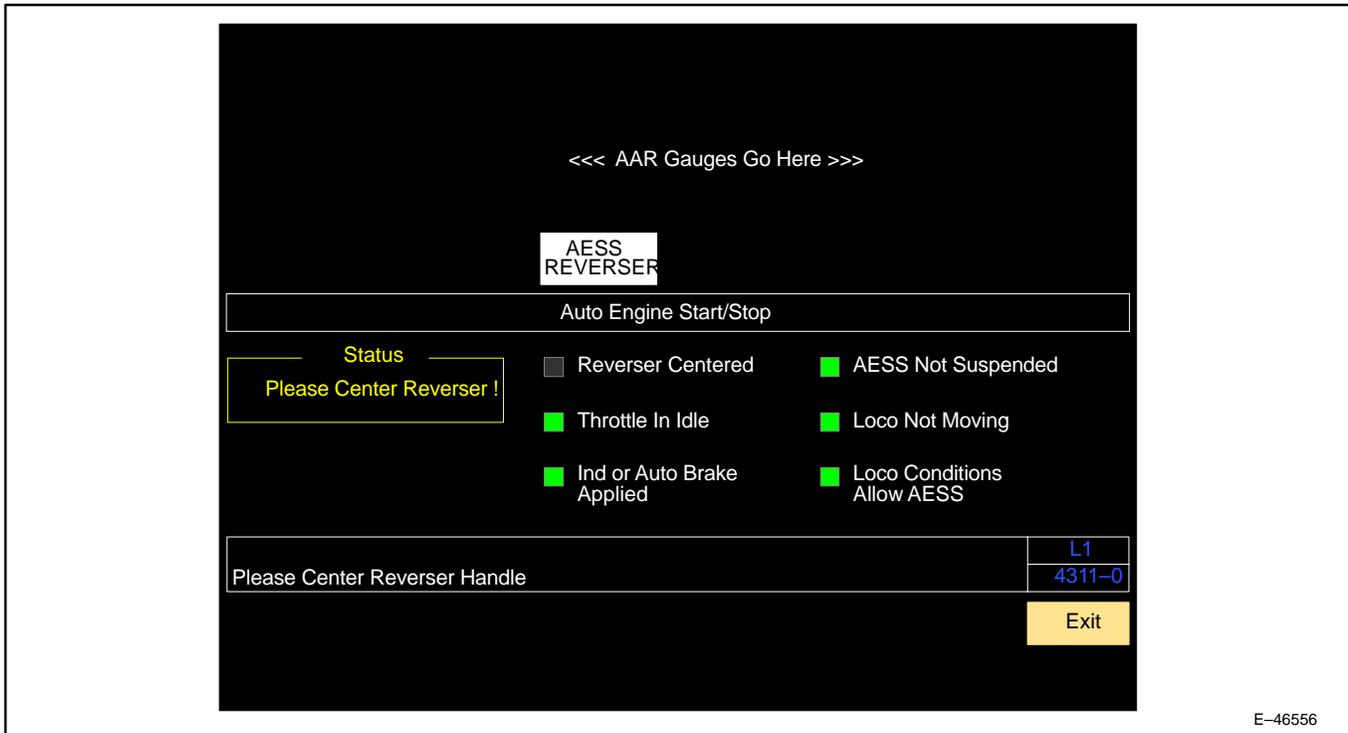

Figure 67. AESS Status Screen.
- Pressing key position 3, Auto Start/Stop, when AESS is active will display screen 4311-0 (Figure 67).